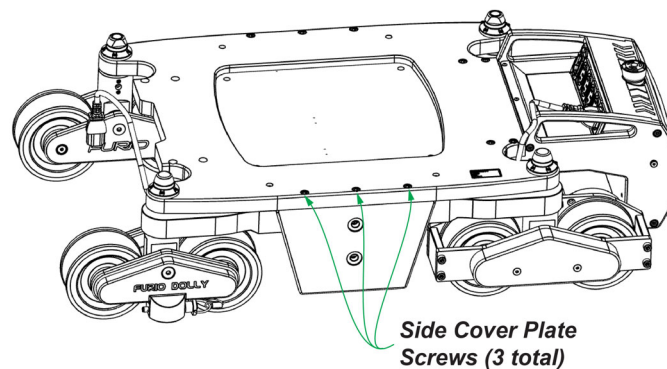

Figure 27 - Side Cover Plate Screws on Dolly Base
2. Use a 5 mm hexagonal wrench to tighten the three screws securing the side cover plate as shown in **Figure 27**.